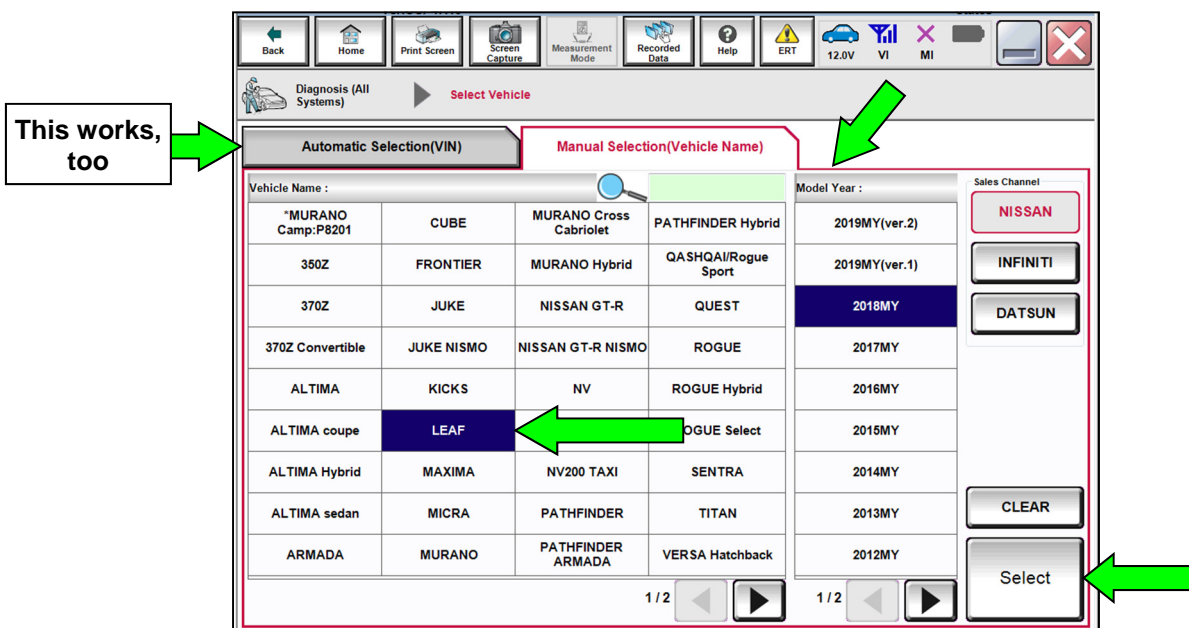

Figure 4
- If the screen in Figure 4 does not display, skip to step 16 on page 5.